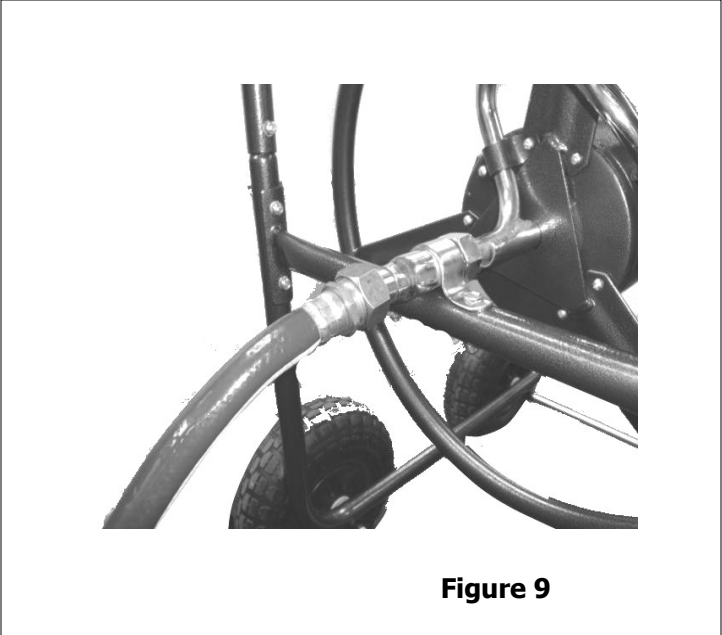

Figure 9
9. Attach Hose Extension to Water Coupler. See Figure 9